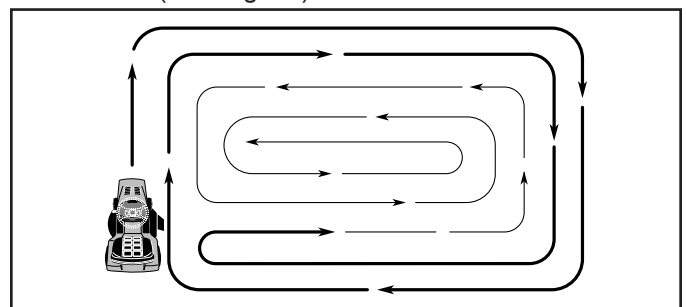

Fig. 15
- When mowing large areas, start by turning to the right so that clippings will discharge away from shrubs, fences, driveways, etc. After one or two rounds, mow in the opposite direction making left hand turns until finished (See Fig. 15).
OPERATOR PRESENCE SYSTEM AND REVERSE OPERATION SYSTEM (ROS) (See Fig. 15)